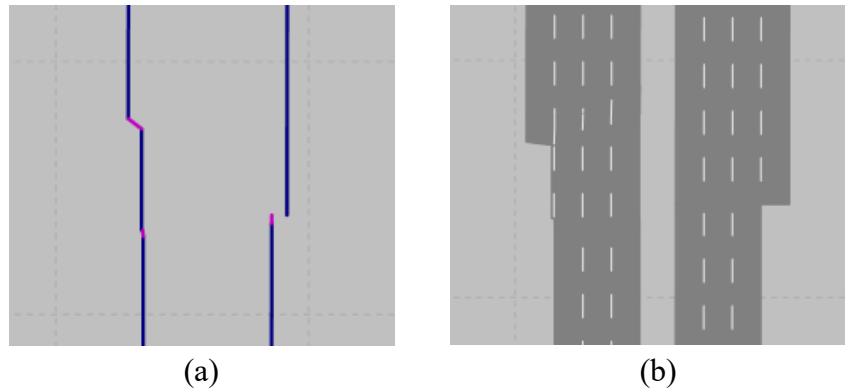

Figure 42: Realigned Link with 1-ft Lane 1 (a) link / connector view, (b) lane view
- step ii. For the short *link* you just created at the end of the taper set the lane 1 (the acceleration lane) width to 1-ft. Slide the new short *link* over slightly so the *link* aligns with the downstream *link*, Figure 42\(a\). Or, from the lane view the left edge of the short *link* and the downstream *link* align, Figure 42\(b\). (See also Figure 43.)